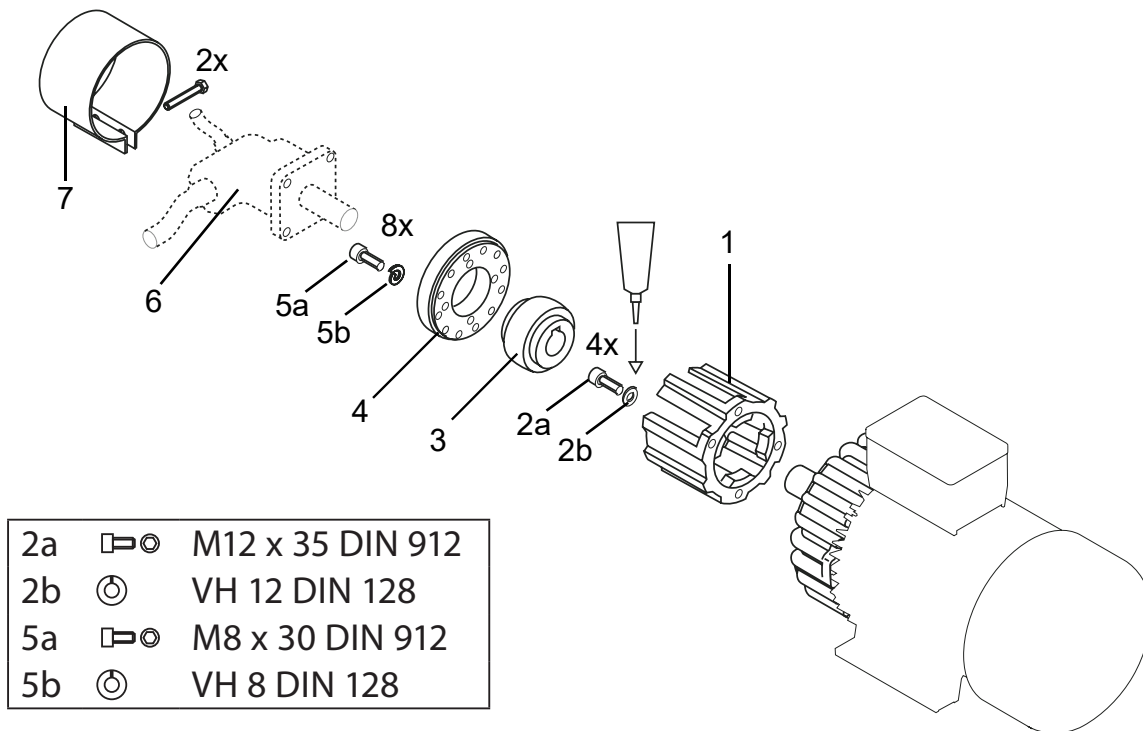

Fig. 21 Assembly of flange mount hydraulic drive
- ⇒ **Fig. 21, Assembly of flange mount hydraulic drive (dual-bearing, BG 132 model with reinforced bearing plate), page 64**